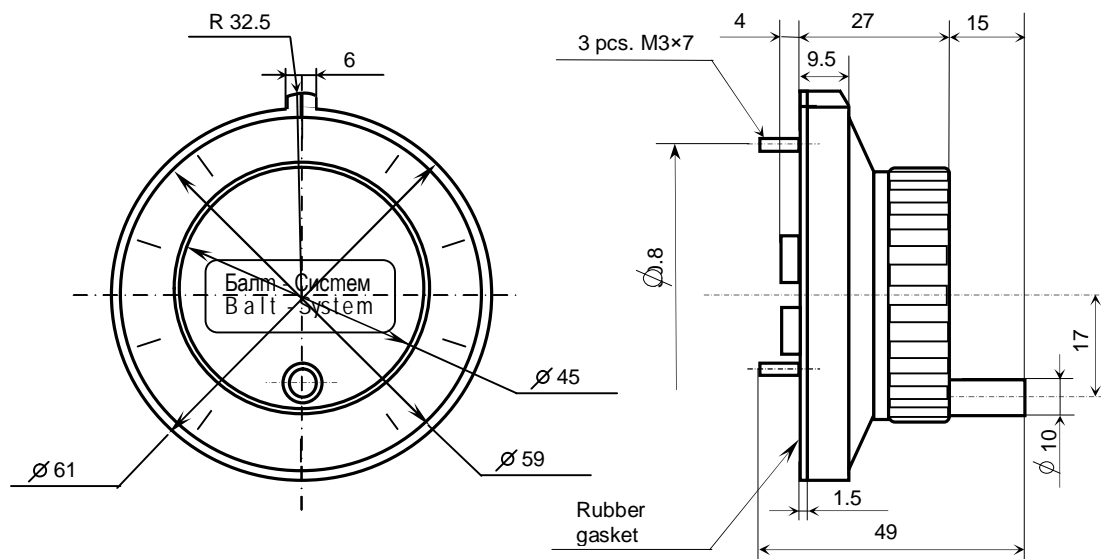

Figure C.6 – The Overall Dimensions of the ZBG-5-003-100 Hand Wheel
13.3.2.1 The overall dimensions of hand wheel ZBG-5-003-100 are shown in Figure C.6. The design version is 5. The hand wheel has a round shape, the degree of protection with an envelope is **IP50**.